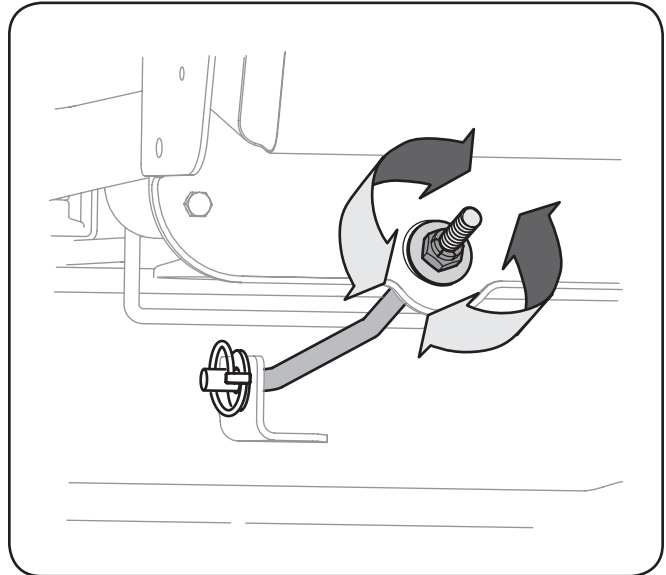

Figure 6-5
1. To *raise* the front of the deck, tighten (thread inward) the lock nut against the front hanger bracket. See Fig. 6-5.
2. To *lower* the front of the deck, loosen (thread outward) the lock nut, away from the front hanger bracket. See Fig. 6-5.